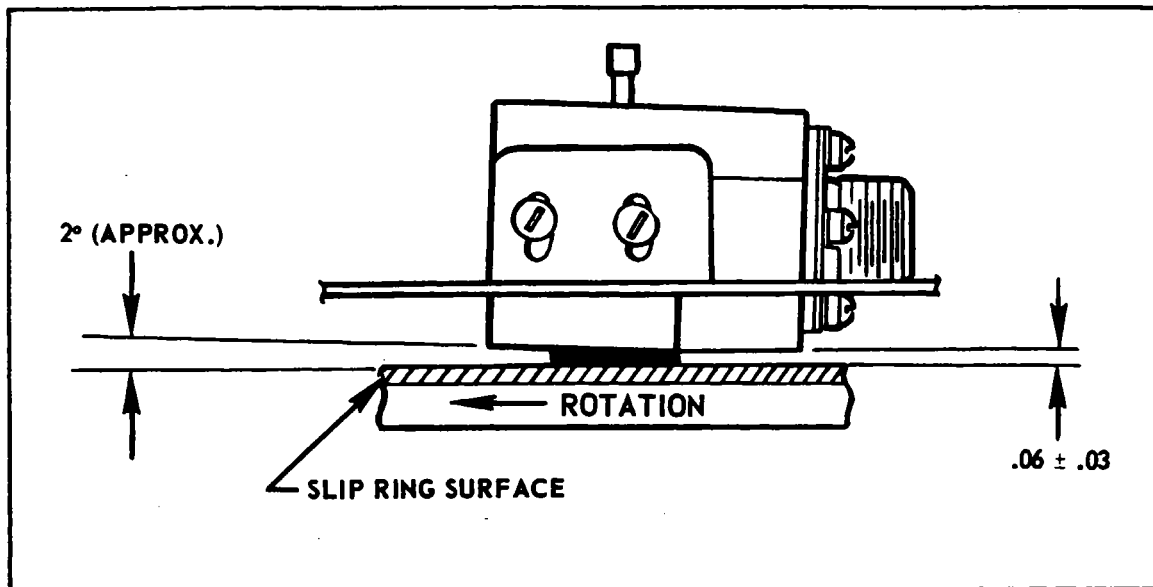

Figure 14-17. Brush Block Positioning
2. Check for proper clearance of brush block to slip rings as in Figure 14-17. If not correct, loosen mounting screws and move in elongated holes to correct block position before tightening securely. (If necessary, shim between thrust bearing plate and mounting plate.)
3. By eye, check brush block to have about 2 degree angle of attack as in Figure 14-17. If not, loosen mounting bolts and twist block but be sure to hold clearance limits shown, when tightening.